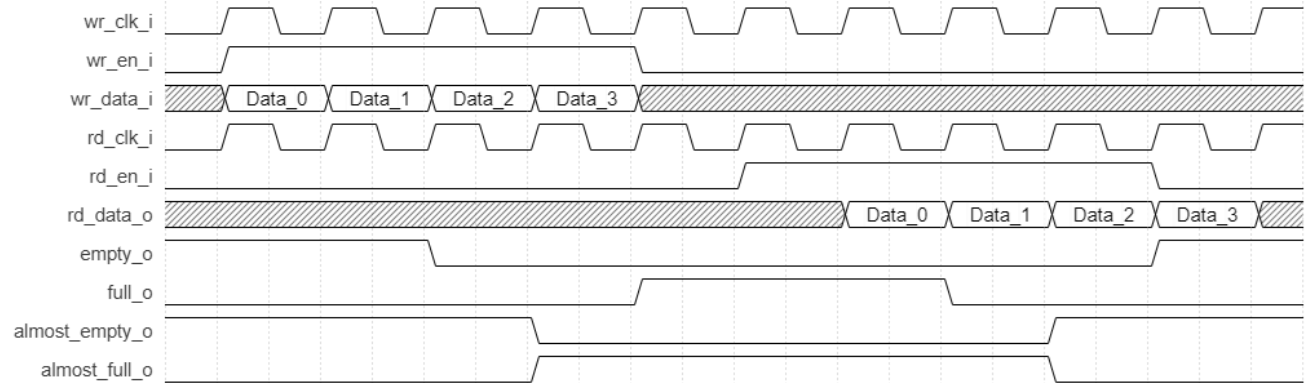
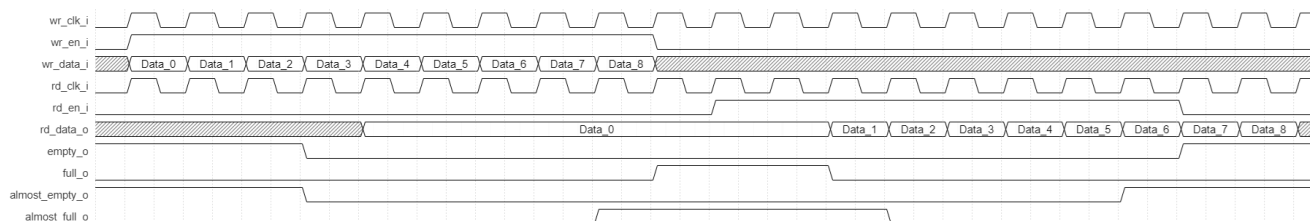

Figure 2.14. FIFO Dual Clock Memory Timing Diagram of Area-Optimized/HW-Based FIFO (Nexus Devices)
Figure 2.16. FIFO Dual Clock Memory Timing Diagram, FWFT Mode with Output Registers (Area-Optimized/HW-Based FIFO, Nexus Devices)
- Figure 2.14 to Figure 2.16 show timing diagrams when using Area-Optimized (HW-Based) Dual Clock FIFO with Nexus devices.